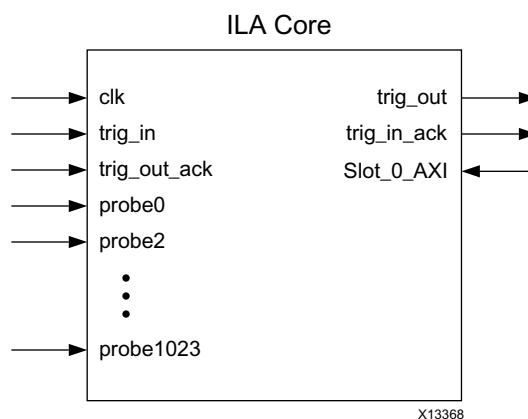

Figure 1-1: **ILA Core Symbol**
Signals in the FPGA design are connected to ILA core clock and probe inputs (Figure 1-1). These signals, attached to the probe inputs, are sampled at design speeds and stored using on-chip block RAM (BRAM). The core parameters specify the number of probes, trace sample depth, and the width for each probe input. Communication with the ILA core is conducted using an auto-instantiated debug core hub that connects to the JTAG interface of the FPGA.
**Note:** The numerical range from probe3 to probe1022 is indicated by ellipses (...) in Figure 1-1.